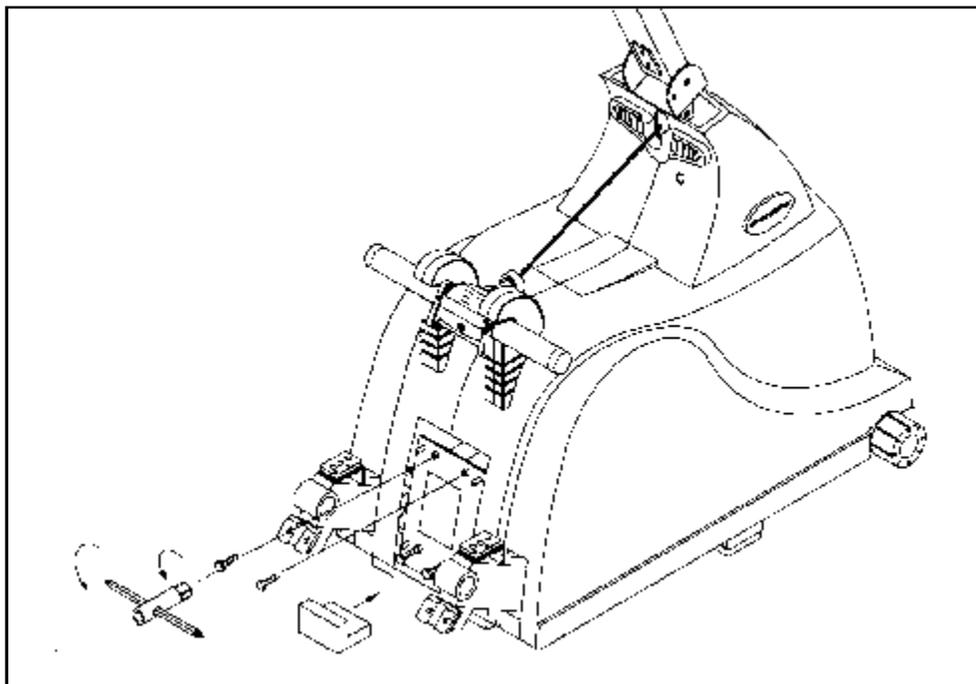

FIG.1
1. Place the wooden block underneath the machine to hold it in the correct position. Then, using the tools provided, remove the top two frame bolts and set aside for use in the next step. Do not remove the bottom two frame bolts (see Fig. 1).